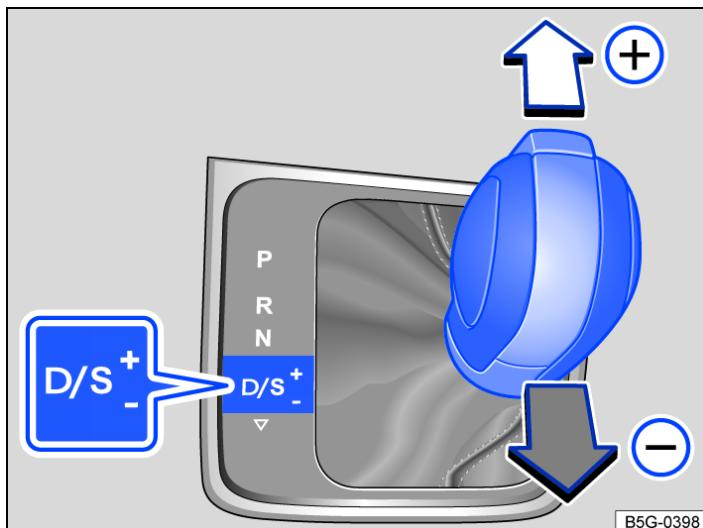

Fig. 1 Selector lever in Tiptronic position (left-hand drive).
2. Tap the selector lever forwards  or back  to shift gear up or down → *Fig. 1*.